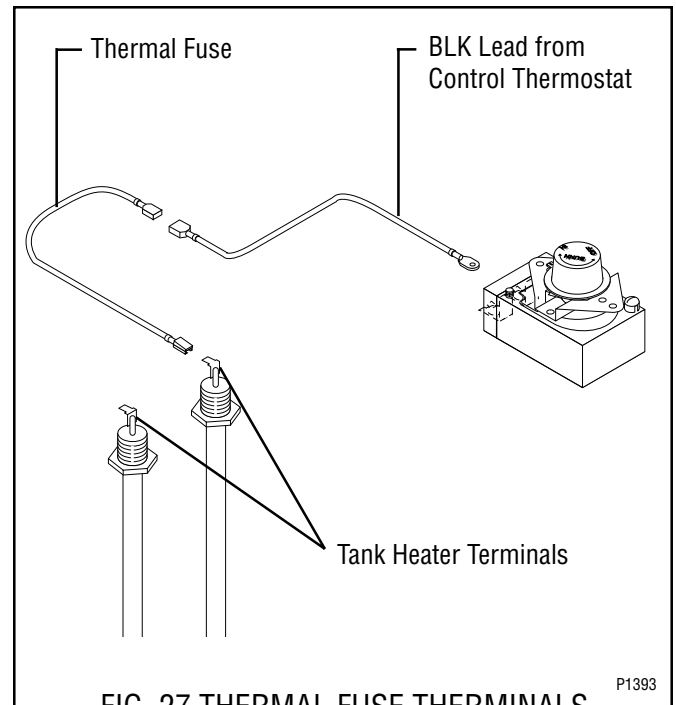

FIG. 27 THERMAL FUSE THERMINALS
4. Refer to Fig. 27 when reconnecting wires.